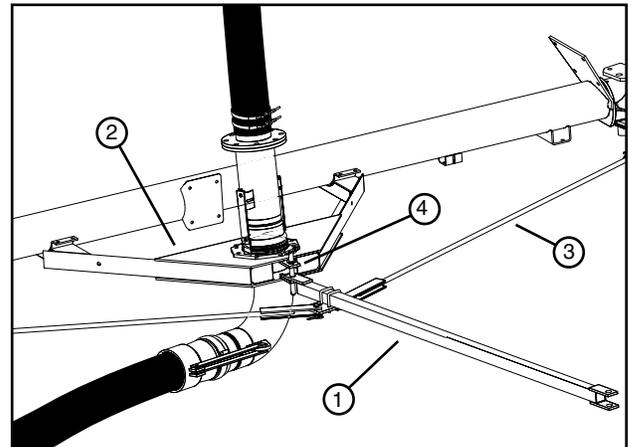

Figure 65-1 1. Tongue 2. Hose Pull frame 3. Tie Rod 4. Torque Pin
1. Attach tongue with tie rods to the hose pull frame with torque pin. See Figure 65-1.